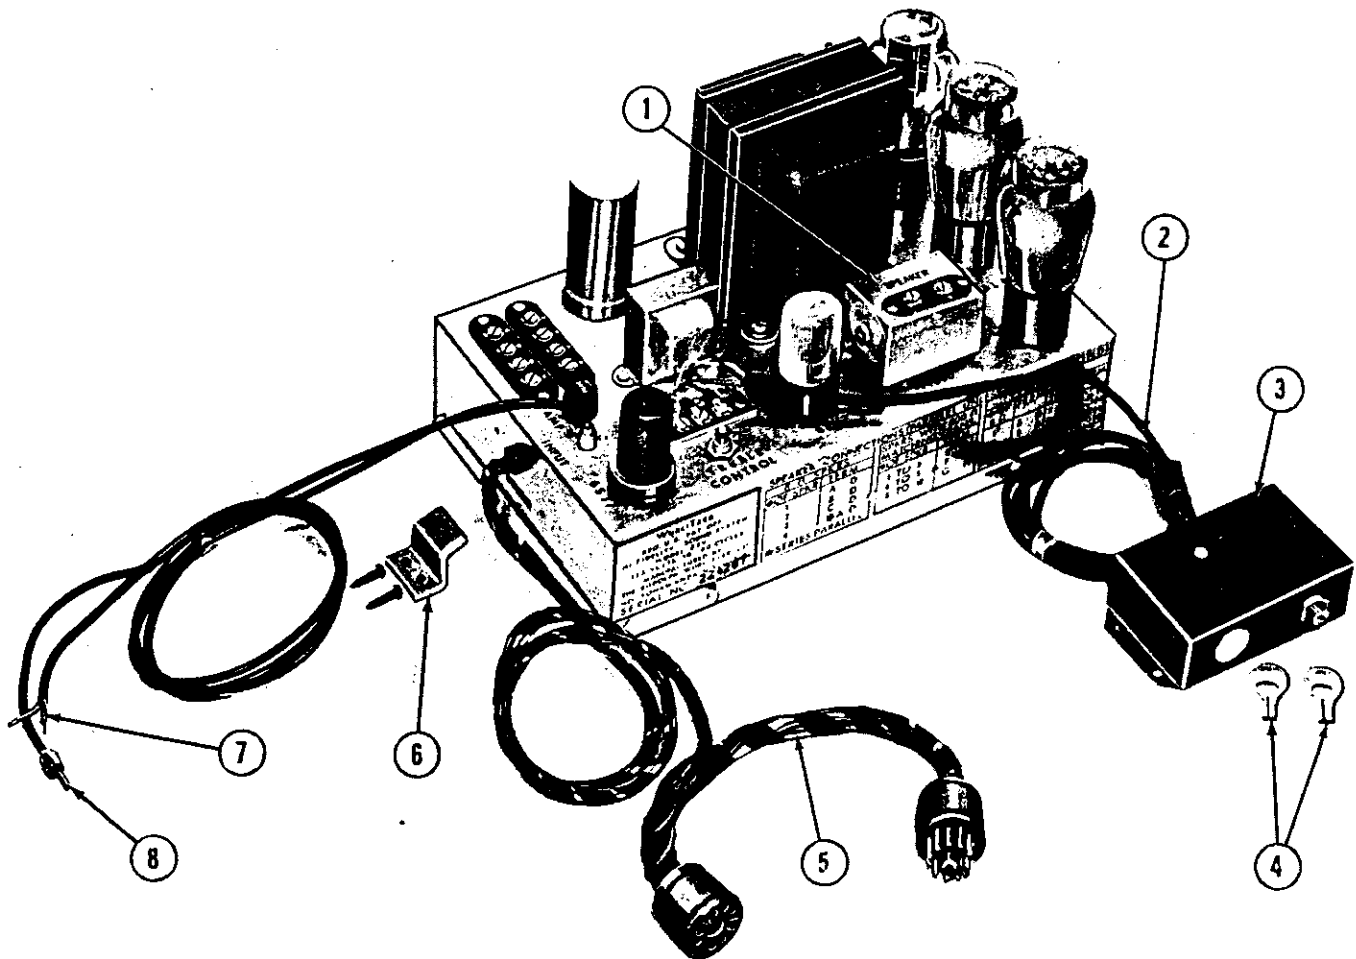

Fig. 106. MODEL 231 AUXILIARY AMPLIFIER EQUIPMENT
5. AUXILIARY AMPLIFIER (Fig. 106)
The group of auxiliary sound system components shown in Figure 106 is identified as Model 231. It consists of a Model 229 High Fidelity Power Amplifier of twenty watt capacity, together with installation fixtures and control units.
b. Should additional sound distribution be required, the Model 532 amplifier is provided with an auxiliary amplifier output socket which is not governed by the phonograph volume control but does have the advantage of the automatic level control. The Model 231 (Part No. 66198) consisting of a Model 229 High Fidelity Auxiliary Amplifier, separate volume control, input cables, and adapter cable for attachment to the Model 532 amplifier. (See Fig. 106). The Model 229 High Fidelity Auxiliary Amplifier is independently controlled by its own volume control which may be installed at the phonograph or at a remote station.